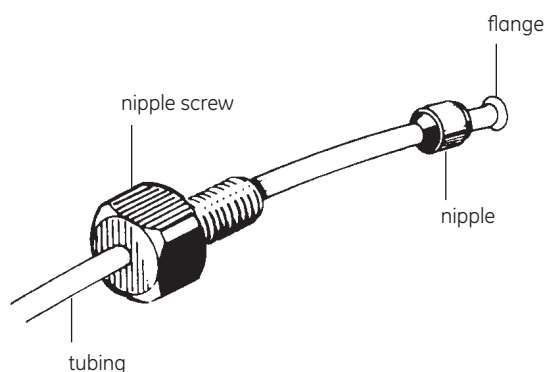

Fig 2. Flanged tubing connection.
1. Dismantle the bottom piece (1) or adaptor (8) as described below.
2. Take a piece of capillary tubing (0.8 mm i.d. for XK 16 and XK 26, 1.2 mm i.d. for XK 50) and make a flanged tubing connection with an M6 connector at one end. (See "Tubing connection" and Fig 2 for details). Pass the unflanged end of the tubing down through the adaptor or up through bottom piece.
4. Finger-tighten the plunger (3).
Tubing connection (Fig 2)